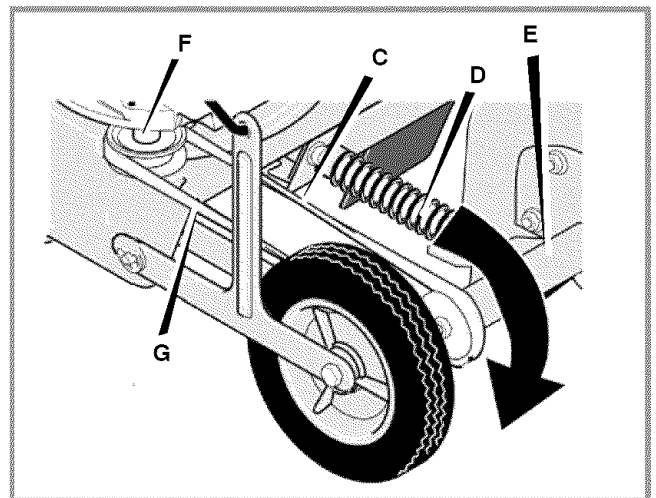
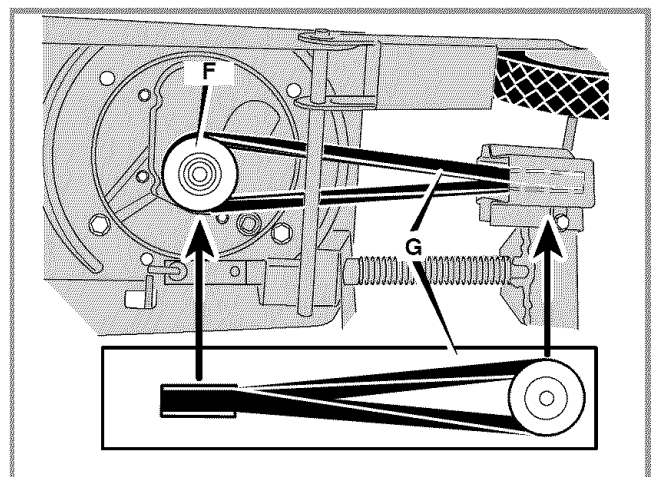

Figure 14: Belt Removal
Figure 15: Belt Twist
- 4 Carefully note the twist of the belt (G) around the engine pulley (F) (see Figure 14 and Figure 15).
- 5 Release tension on the belt by pushing the blade bearing housing (E) back toward the engine to compress the spring (D) (see Figure 14). Remove the old belt. Replace with an original equipment belt.
- 6 To install a new belt, reverse the above steps. Make sure to twist the new belt as shown in Figure 15.